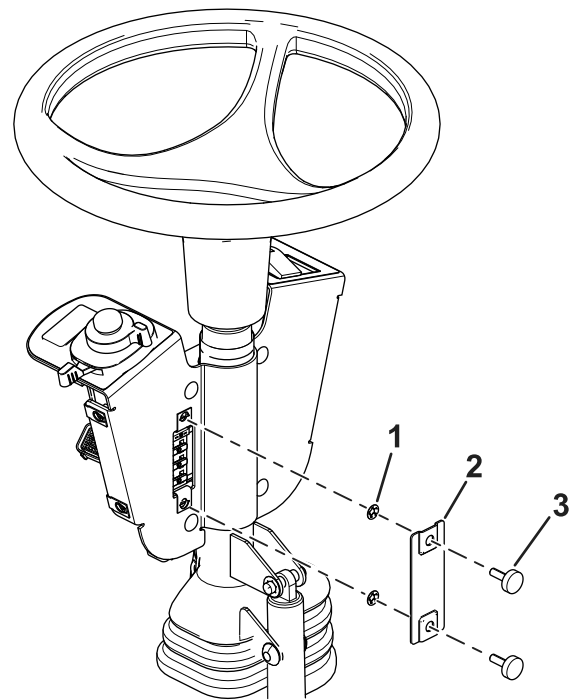

Figure 11
10. Install the fuse cover to the switch mount using 2 thumb screws and 2 push nuts (Figure 11).
Note: Ensure that the push nuts are installed on the inside of the fuse cover (Figure 11).